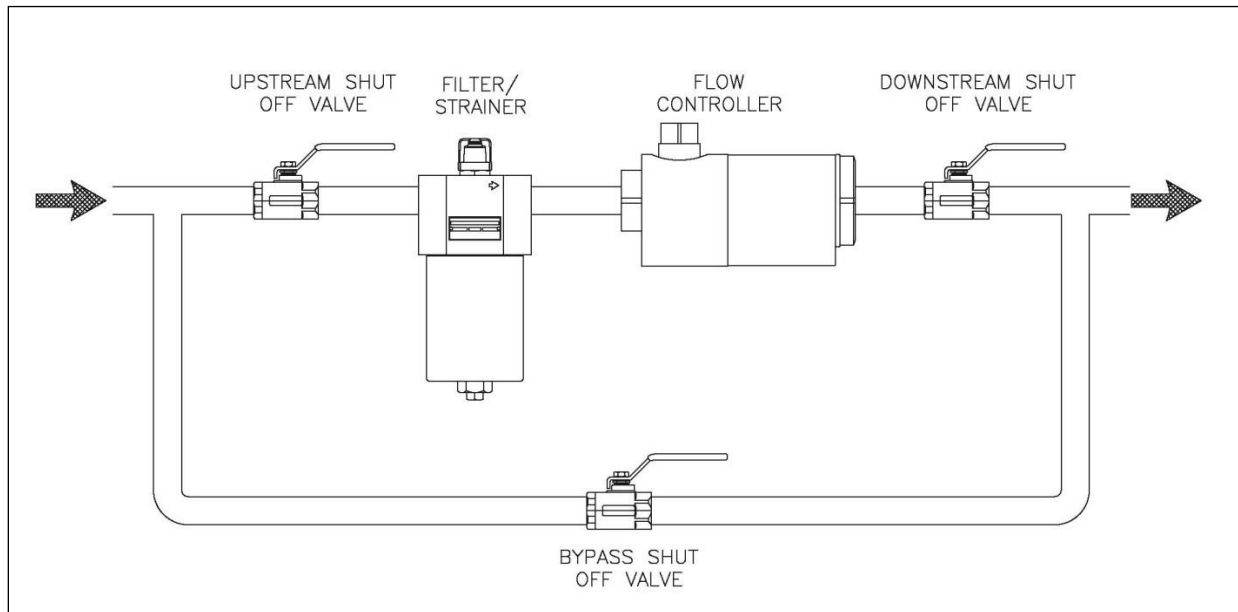

Figure 1
2. Upstream and downstream shutoff valves and a bypass valve should be installed so that the controller may be opened for inspection and cleaning without requiring complete system shutdown. (See figure 1)